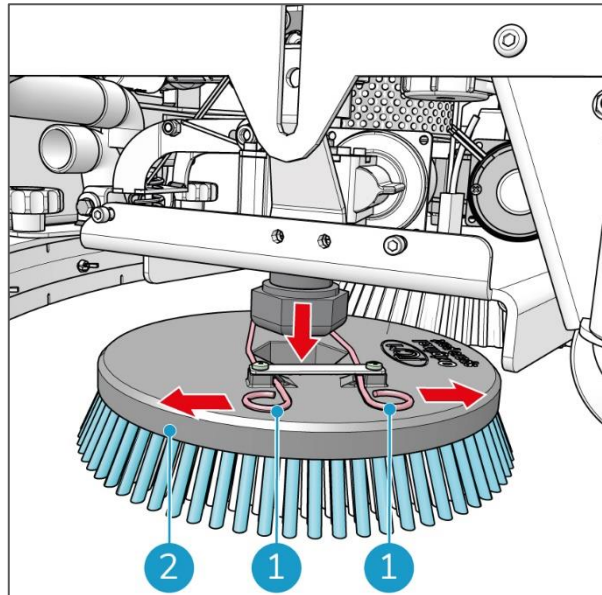

Figure 48
5. Push the two springs (Figure 48, pos 1) fully outward until they lock into place, behind the cams. The clamp is now released.
6. Carefully remove the disc brush (Figure 48, pos 2).